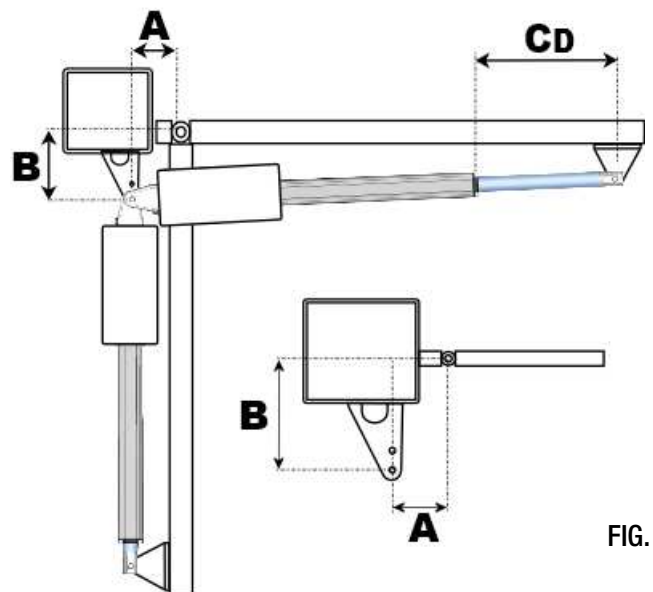

FIG. 3
Before fastening the brackets provided, establish the A and B (Fig. 3) coordinates using the data given in Table 1. These data are valid if the gearmotor is at maximum extension minus one centimetre of the available stroke (CD) when the gate is closed to obtain maximum working efficiency.